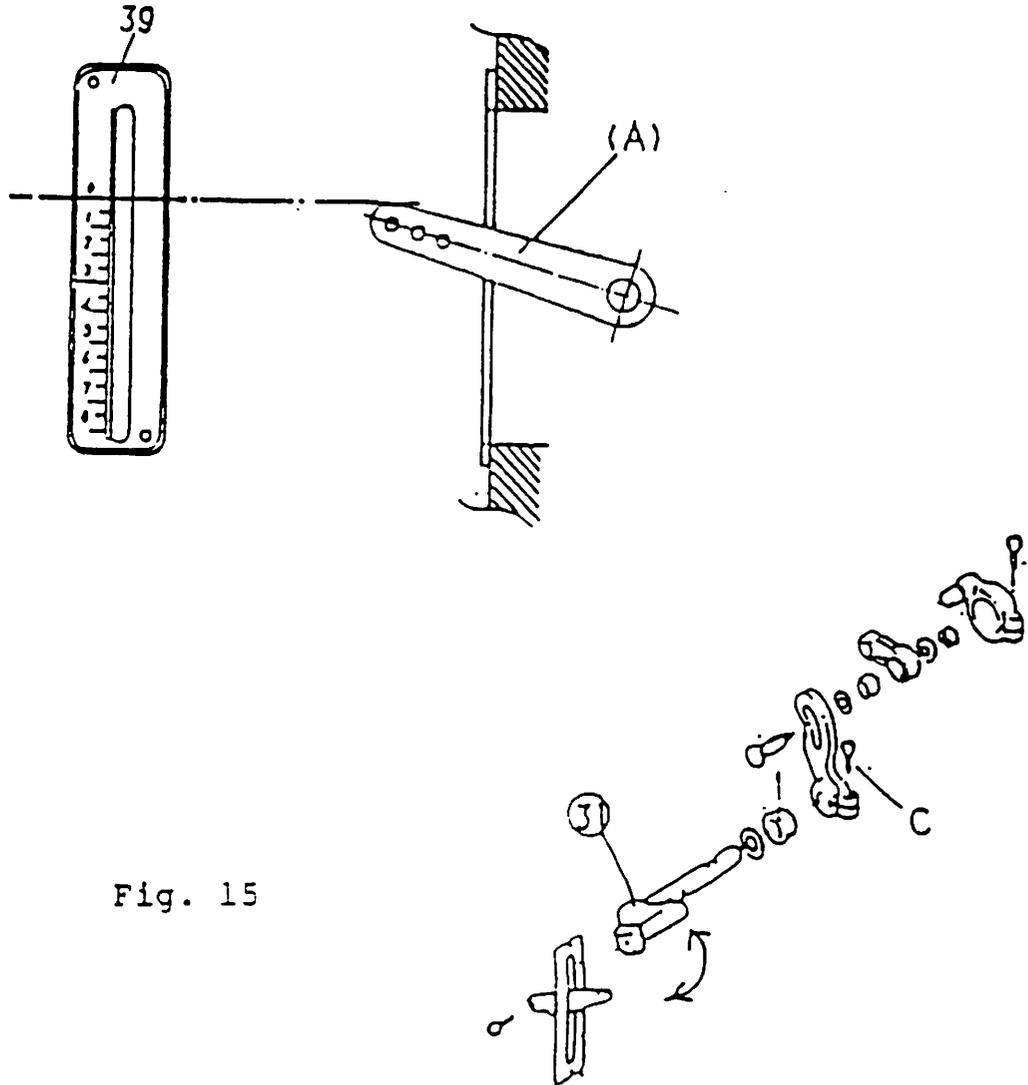

Fig. 15
(17) Position of Needle Thread Guide (Fig 15)
Loosen the screw C shown in Fig 15 and adjust the position of the needle thread guide so that the top face of the thread guide (A) shall be lined with the 'o' graduation of the scale.